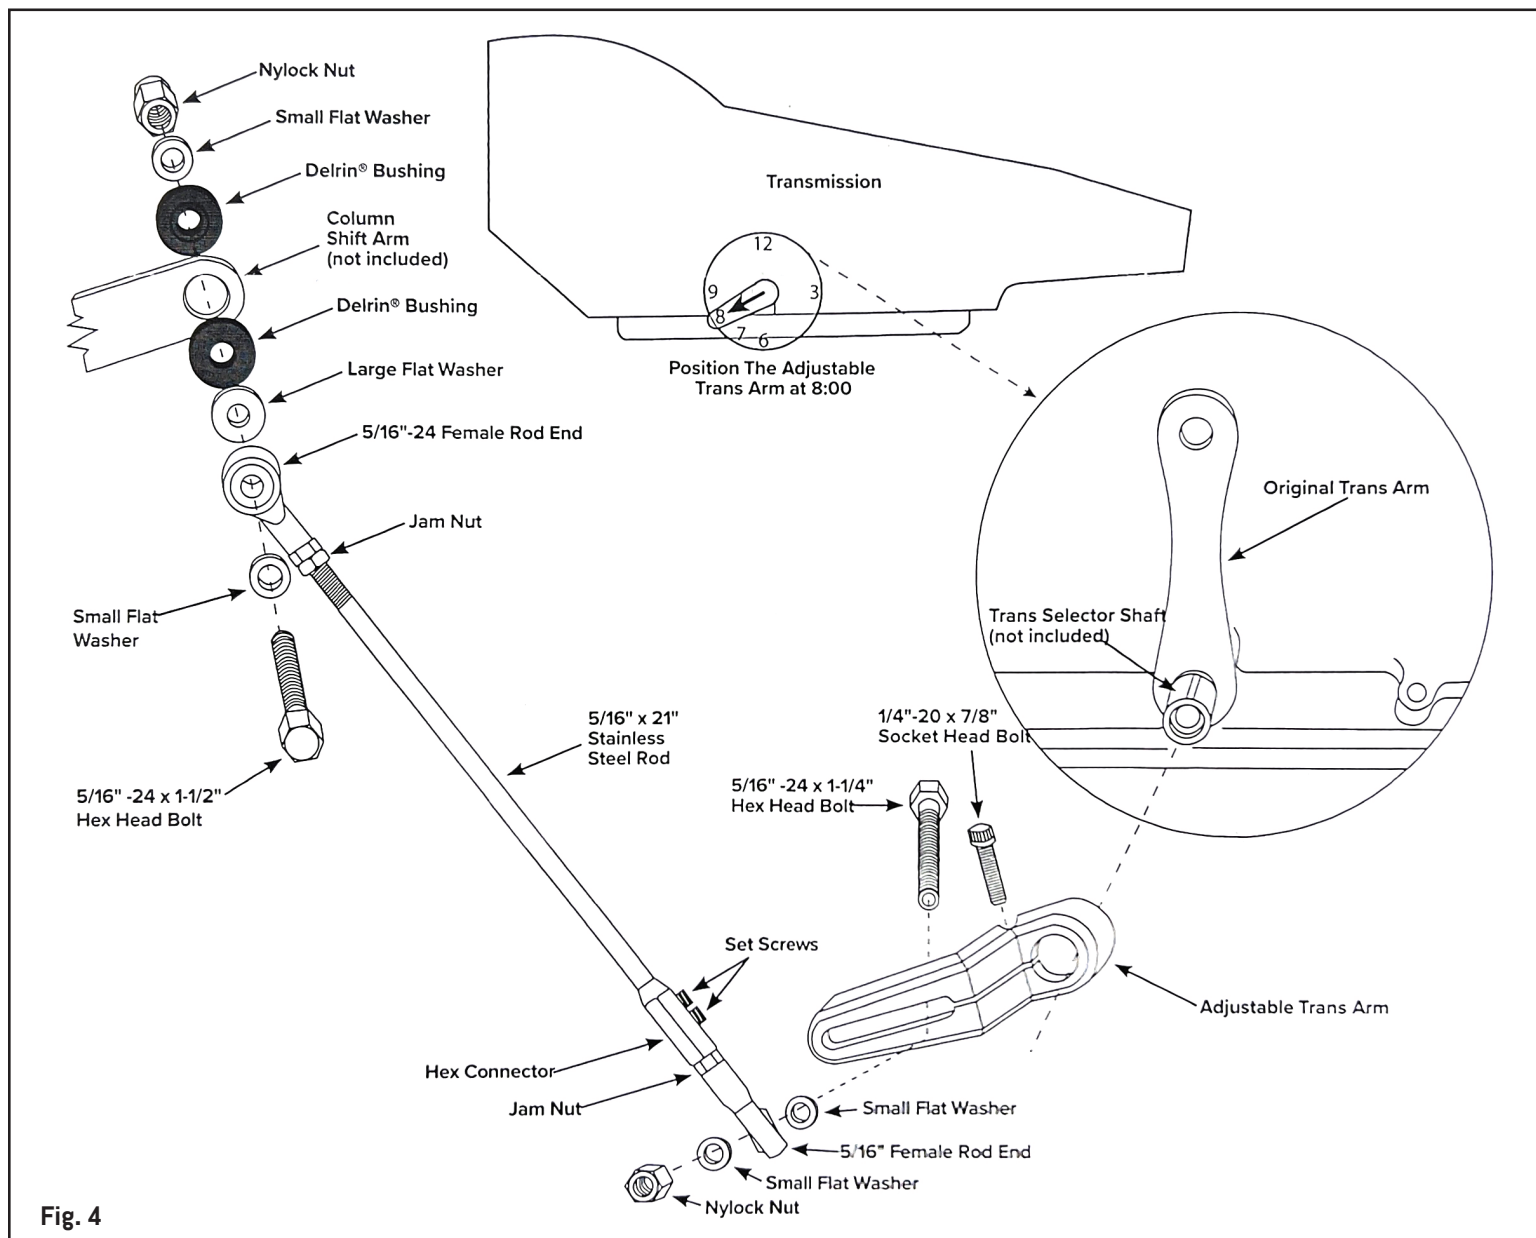

Fig. 4
Insert the bolt through the column shift arm, and install the other Delrin® bushing and small flat washer. Secure it all using the 5/16"-24 nylock nut as shown in **Fig. 4**.
Step 7: Slide the hex connector with the second 5/16"-24 female rod end onto the end of the stainless steel rod. Attach the rod end to the adjustable trans arm with the 5/16"-24 x 1-1/4" hex head bolt, two flat washers, and nylock nut as shown in **Fig. 4**. Tighten the set screws in the hex connector using a 1/8" Allen wrench, but only enough to mark the stainless steel rod and hold the hex connector in place during the adjustment procedure.